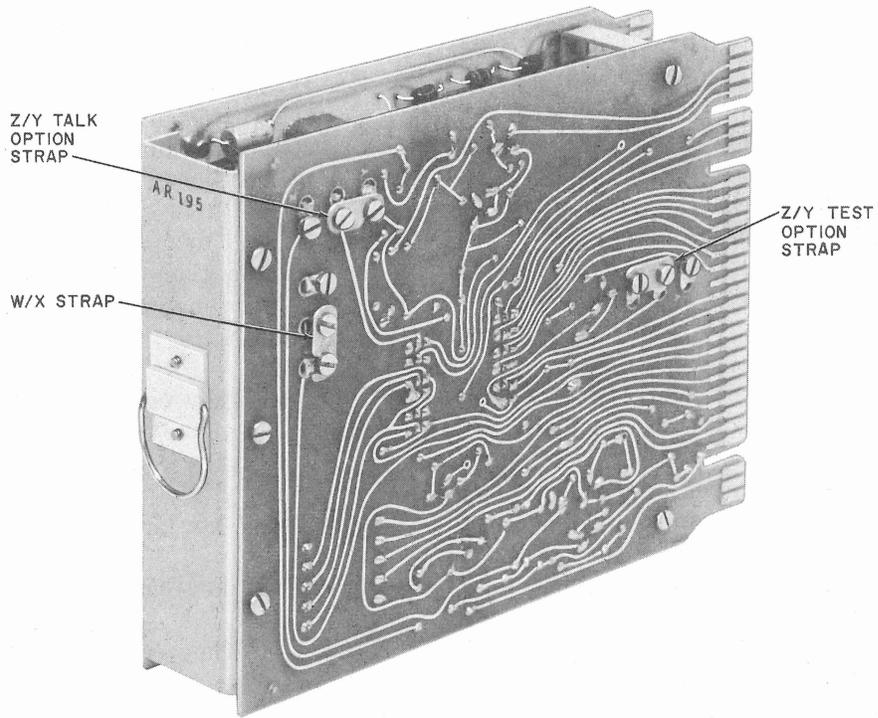

Fig. 3—Location of Straps On CPAR 171 (Part of CPAR195) For Providing XY and Z Options
1.08 Fig. 3 and 4 identify the straps for providing the W, X, Y, and Z options on CP AR171 and CP AR172. Refer to the installation section of the associated data set to determine what options must be supplied by Data Auxiliary Set 804M-type.